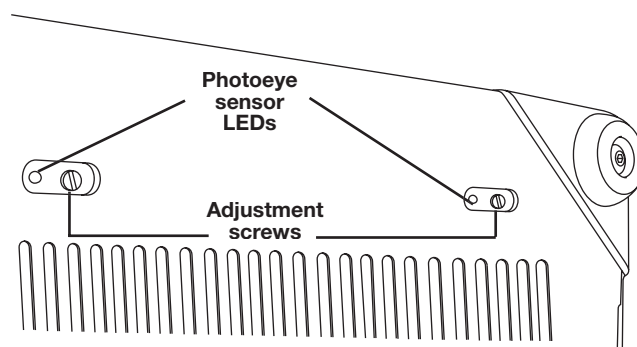

Fig. 18
3. Locate the two slotted access holes on the underside of the system. See Fig. 18.